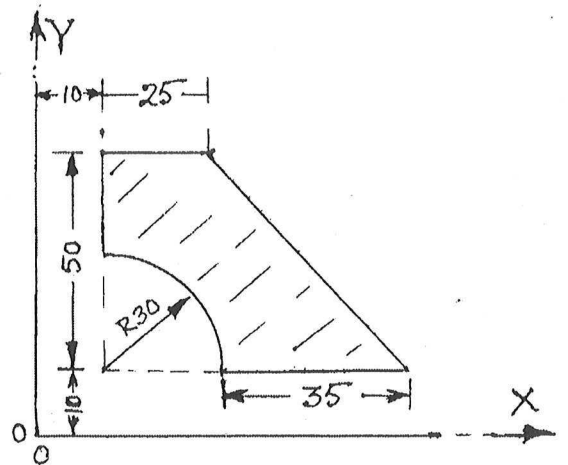

Fig. 4
12. Write a program in APT language for milling the edges of a job shown in fig. 4 using a CNC milling machine using an end mill cutter. 10